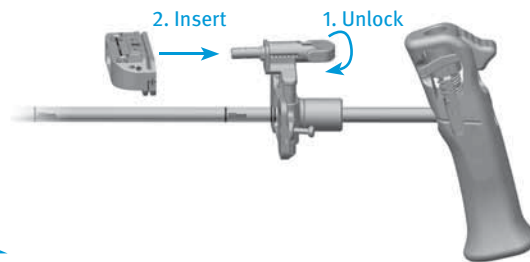

Fig. 108a
- Rotate the lock lever on the Fixed Resection Tower to the unlocked, or “in-line”, position and fully insert into the Cut Guide (**Fig. 108a**).